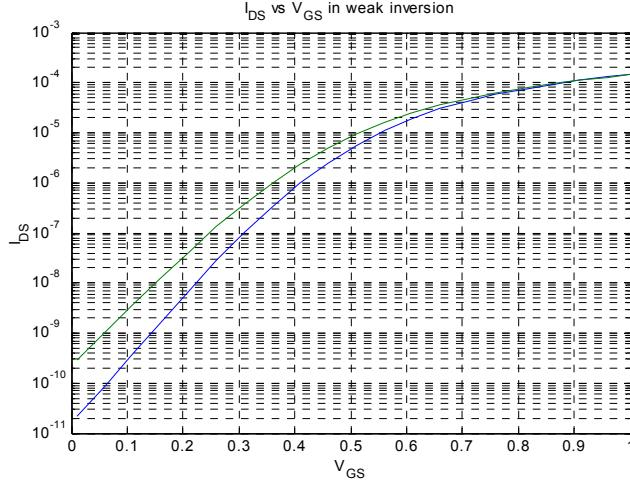

Figure 0.9 Subthreshold current curves. Difference is due to process variations
13. [E, None , 3.3.2]The curves below in Figure 0.9 represent the gate voltage(V_{GS}) vs. drain current (I_{DS}) of two NMOS devices which are on the same die and operate in subthreshold region. Due to process variations on the same die the curves do not overlap.